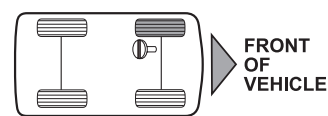

**Figure 2**
8. Remove nut and washer from arm-to-frame mounting bolt and remove bolt and arm. It may be required to remove additional components from vehicle in order to complete arm-to-frame bolt removal. Discard both OE washers. Place one supplied offset washer onto head of arm-to-frame bolt. When installed, offset washer flange should be facing away from bushing flange, see **Figure 2**.